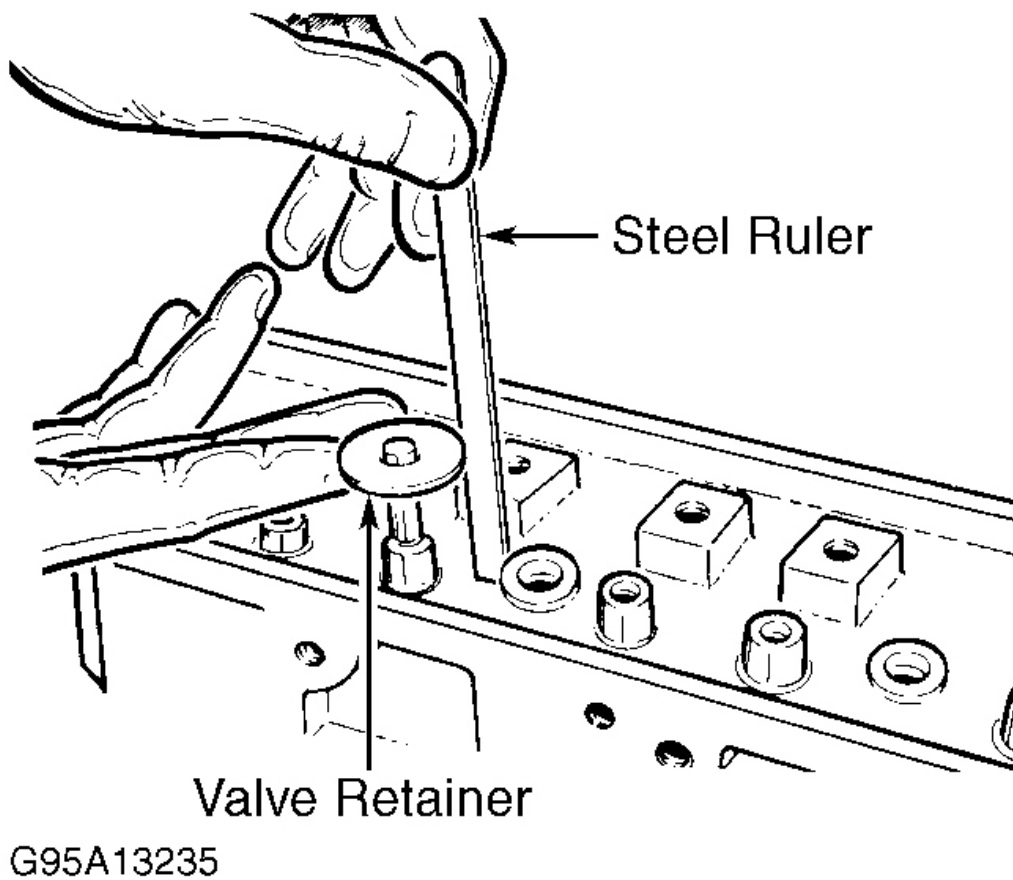

Fig. 22: Measuring Valve Spring Installed Height
1. Install valve, valve retainer and keepers. Pull upward on valve, and measure height from top of spring seat to spring side of valve retainer. See **Fig. 22**.